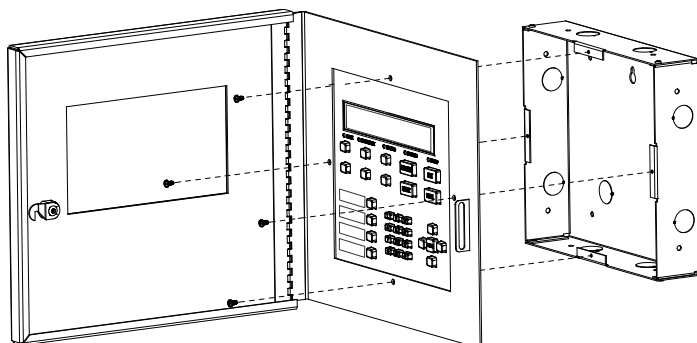

Figure 3 Attaching Annunciator/Door Assembly
9. Attach the door assembly to the backbox using the screws provided. Refer to Figure 3.